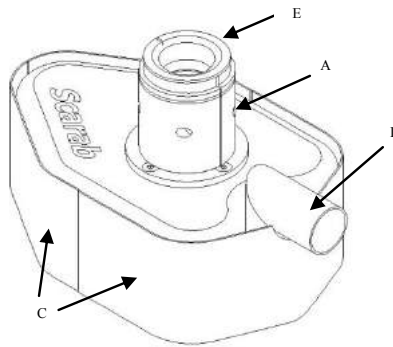

Fig.1
1	Ensure the polisher is turned off, unplugged and securely fastened to the SCARAB™. The 2 bolts (A) of the mounting coupler should be tight. The polisher should not be able to swivel. (Fig.1)